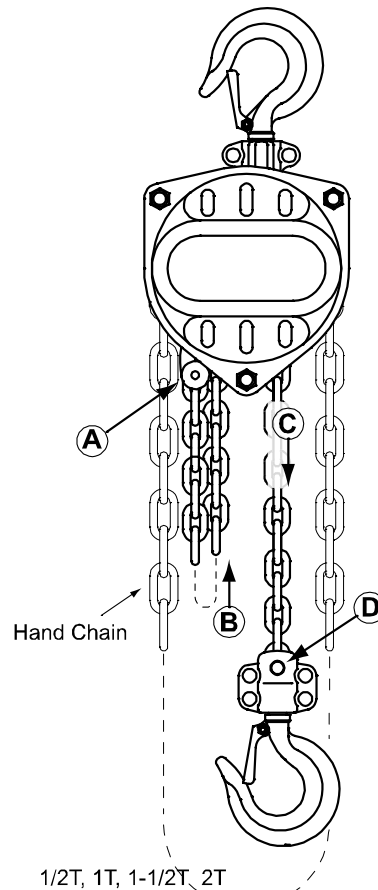

Figure 12
1. Referring to Figure 12:
2. Remove the *split pin*, *castle nut* and *bolt (D)* from the lower hook.
3. Insert the last *chain link (C)* into the lower hook slot.